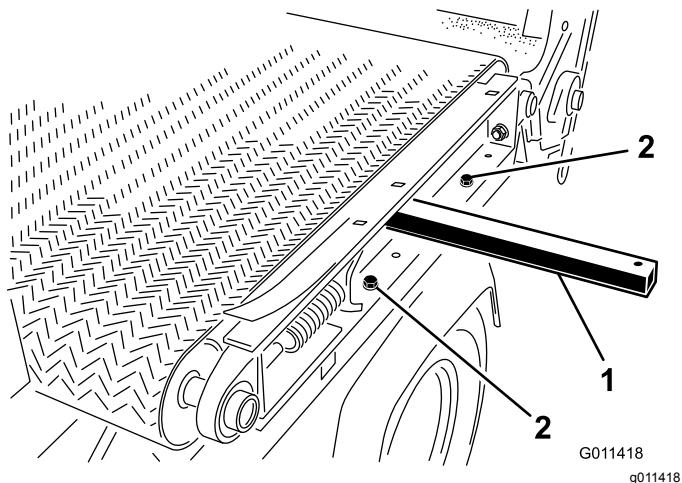

Figure 35
- Remove 2 cap screws, washers, and nuts on the left side of the machine, securing the slider bed to the frame (Figure 35).
- Insert a lift bar into hole on left side of machine and raise lift bar to tip slider bed (Figure 35).